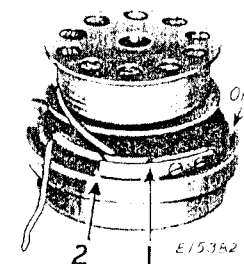
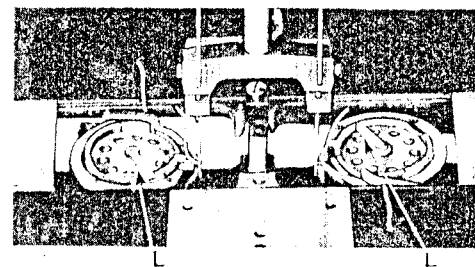

Fig. 10. Direction of Thread on Bobbin
Fig. 11. Bobbin Cases Threaded
Apply a few drops of oil four times daily to the felt pad in the side wall of each bobbin case as illustrated in Fig. 10.
Hold each bobbin between the thumb and forefinger with the thread drawing on the bottom from left to right as shown in Fig. 10
and place it on the center stud of the bobbin case, then push down the latch (L, Fig. 11). Draw the thread into the slot (1, Fig. 10), under the tension spring and into slot (2) as shown in Figs. 10 and 11, leaving a loose end of thread about two inches long above the slide. When closing the slide plates, leave just enough space for the threads to pass through.